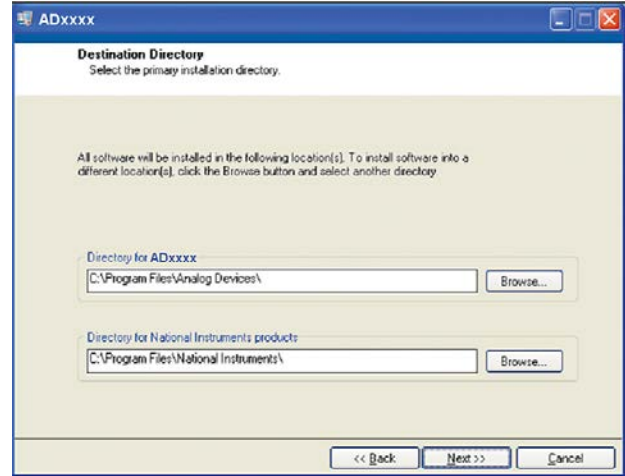

Figure 9. AD7176-2 Evaluation Software Installation: Selecting the Location for Software Installation
4. Select the location to install the software, and then click **Next**. (Figure 9 shows the default locations, which are displayed when the window opens, but you can select another location by clicking **Browse**.)